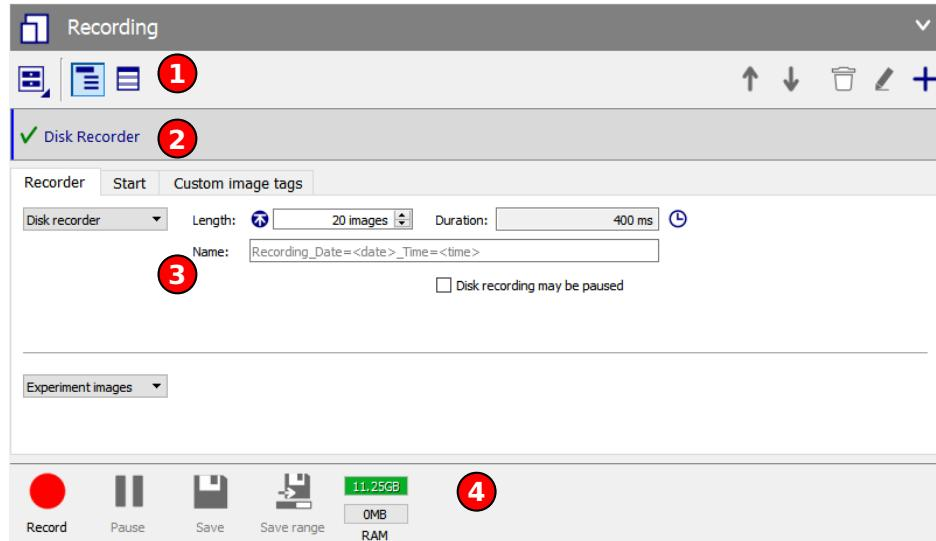

Figure 10.16: Recording section
In the **Recording** section (see Fig. 10.16) all settings regarding the recording of image sequences are specified. A simple recording is performed by just typing in the number of images to be recorded and click the **Record** button. Alternatively a very complex automated scan of e.g. a reference time combined with an X and Y axis could be parameterized all within this section.
The left hand side of the toolbar at the top (1) of the **Recording** section in Fig. 10.16 contains tools to control the scan sequence or scan table. (The tool buttons on the right are described in Sec. 10.5.4 *Scanning modes*.) A composed scan sequence or scan table is displayed in (2) (cf. Fig. 10.25). Therefore this row expands vertically. The central area (3) contains the tabs *Recorder*, *Start* and *Custom image tags*. The controls in the footer toolbar (5) are used to execute the current recording (cf. Sec. 10.1 *Overview*).
The **disk recorder** only works with streaming cameras (which are almost all low-speed cameras). It streams the data from all devices into the computer, composes it to measurement point (a multi frame image), sends it through an optional processing stage and pushes it into a queue which is drained by a high performance disk writer engine using the **DaVis** stream format where basically the data of each device are written to a separate file. The queue uses the dedicated recording memory as defined in the preferences (cf. Sec. 3.3.9 *Recording*). If the hard disk's write speed is slower than the camera system's data rate, the queue will continuously fill up which is visualized in the lower RAM fill level indicator (see ④ in Fig. 10.16). Once the RAM is filled, the triggering of the devices is paused (the timing unit enters the record idle state, which e.g. only fires the laser flash lamps but not Q-switch and camera) until a slot in the queue becomes available. This decreases the frame rate during recording. The frame rate statistics are stored in the comments of each recording (displayed in the project browser's properties windows). The images are always displayed during recording similar to live mode since the data is streamed directly to the computer.